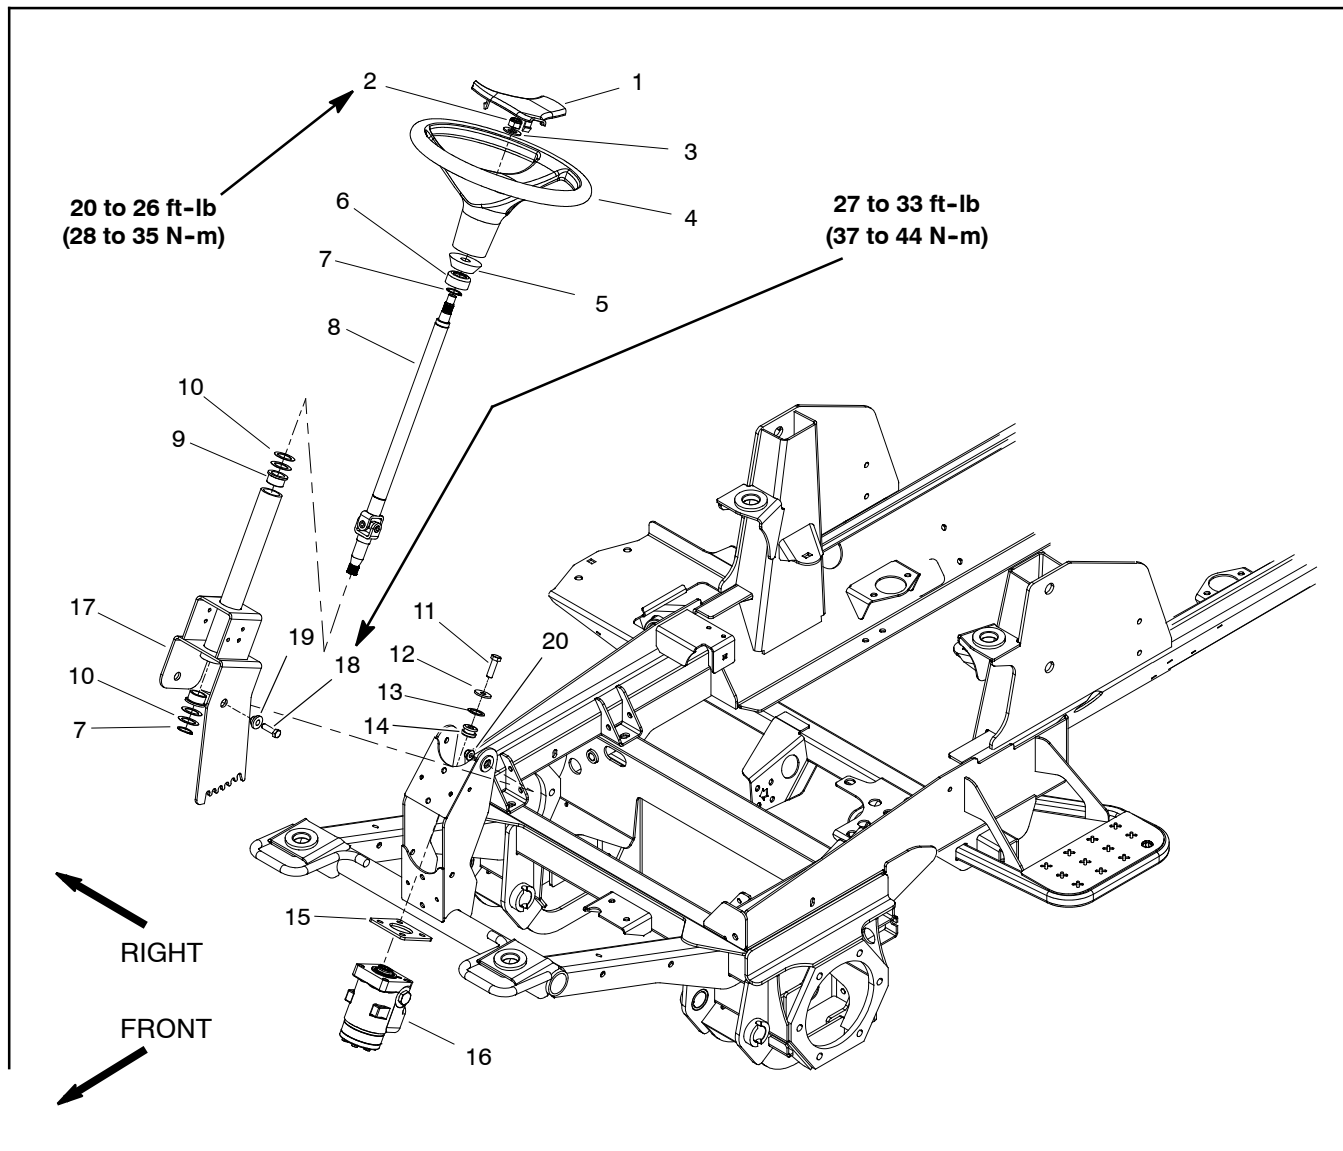

Figure 77
Removal (Fig. 77)
6. Remove steering control valve from machine using Figure 77 as a guide.
Installation (Fig. 77)
2. Install steering control valve using Figure 77 as a guide.